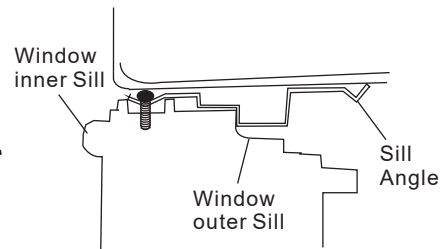

Fig.12
2. Place cabinet in window with bottom sill angle firmly seated over window sill as shown. Bring window down temporarily behind top angle to hold cabinet in place(Fig.12).
Step 2. Remark a line on the provided R1 insulation panel according to a length $1/8$ " (3mm) less than the measured width in step 1, then cut the R1 insulation panel along the line (Fig. 12).